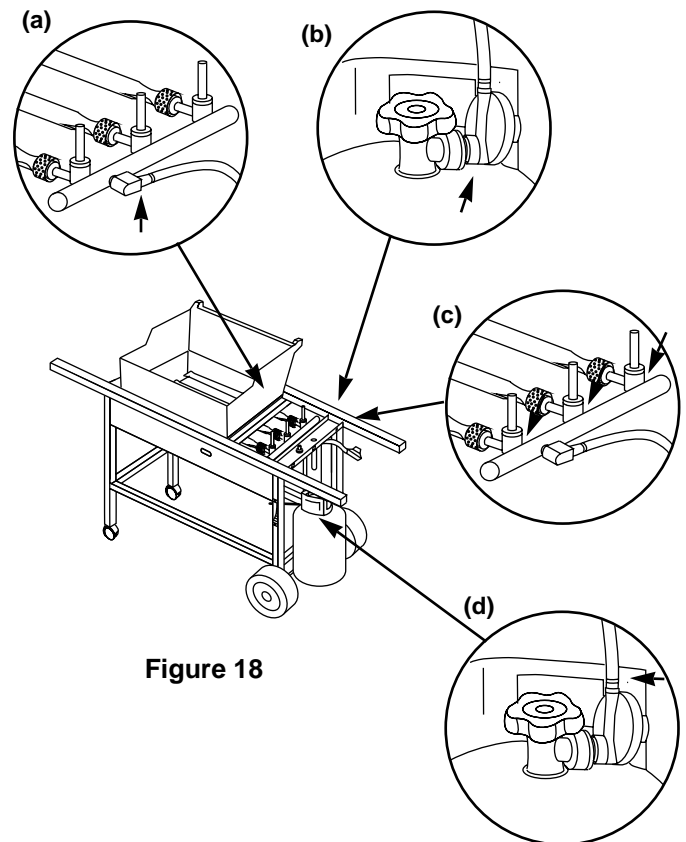

Figure 18
- Hose to manifold connection. Figure 18 (a).
- Regulator to tank connection. Figure 18 (b).
- Valves to manifold connections. Figure 18 (c).
- Hose to regulator connection. Figure 18 (d).